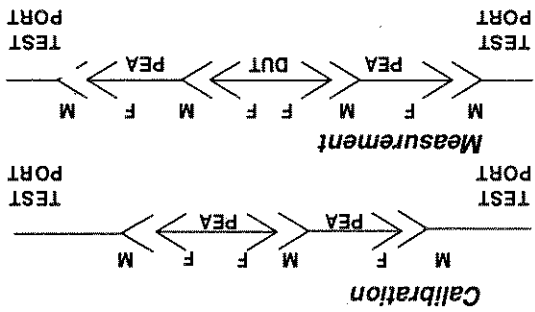

Figure 7-3. Using Phase-Equal Insertables
- It provides a simple solution to measuring non-insertable devices (e.g., a filter with K female input and output connectors), by merely swapping PEAs after calibration. See Figure 7-3.